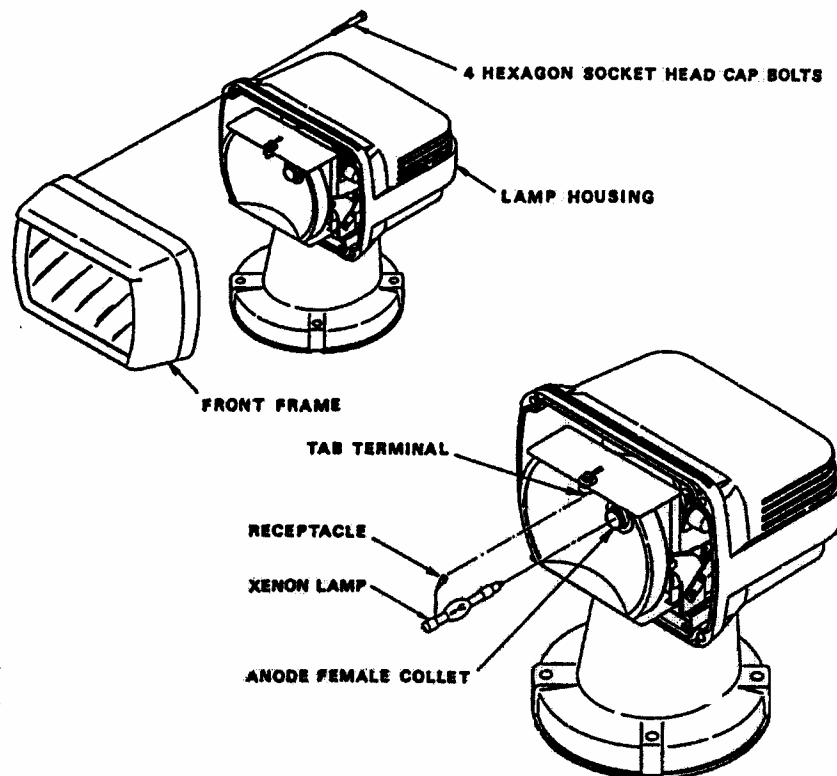

FIGURE 7
3.7 Bulb Replacement (see Figure 7)